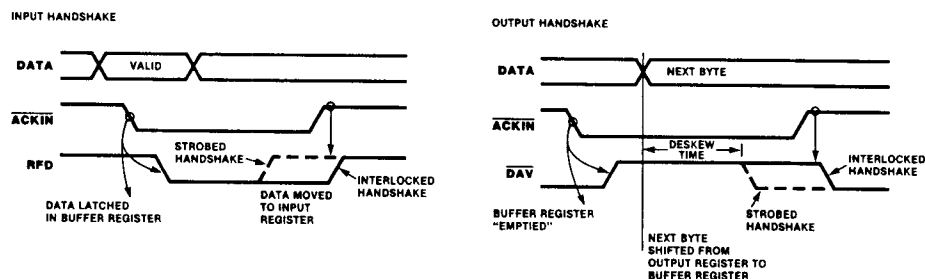

Figure 7. Interlocked and Strobed Handshakes
**Interlocked Handshake.** In the Interlocked Handshake mode, the action of the CIO must be acknowledged by the external device before the next action can take place. Figure 7 shows timing for Interlocked Handshake. An output port does not indicate that new data is available until the external device indicates it is ready for the data. Similarly, an input port does not indicate that it is ready for new data until the data source indicates that the previous byte of the data is no longer available, thereby acknowledging the input port's acceptance of the last byte. This allows the CIO to interface directly to the port of a Z8 microcomputer, a UPC, an FIO, an FIFO, or to another CIO port with no external logic.
**Strobed Handshake.** In the Strobed Handshake mode, data is "strobed" into or out of the port by the external logic. The falling edge of the Acknowledge Input ( $\overline{ACKIN}$ ) strobes data into or out of the port. Figure 7 shows timing for the Strobed Handshake. In contrast to the Interlocked handshake, the signal indicating the port is ready for another data transfer operates independently of the  $\overline{ACKIN}$  input. It is up to the external logic to ensure that data overflows or underflows do not occur.